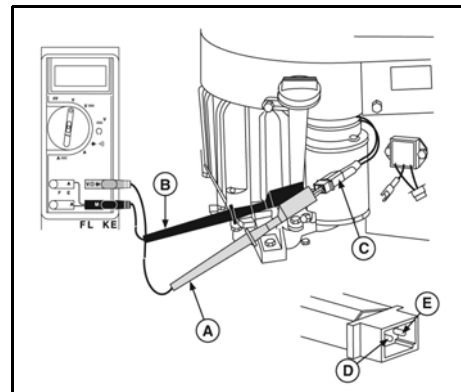

Figure 28
2. Insert RED test lead (A, Figure 28) into the V  $\Omega$  receptacle in the meter.
3. Insert BLACK test lead (B) into COM receptacle.
5. Insert RED (A) and BLACK (B) test lead probes into output terminals (D & E) in YELLOW connector (C). (Test clip leads may be attached to either terminal).